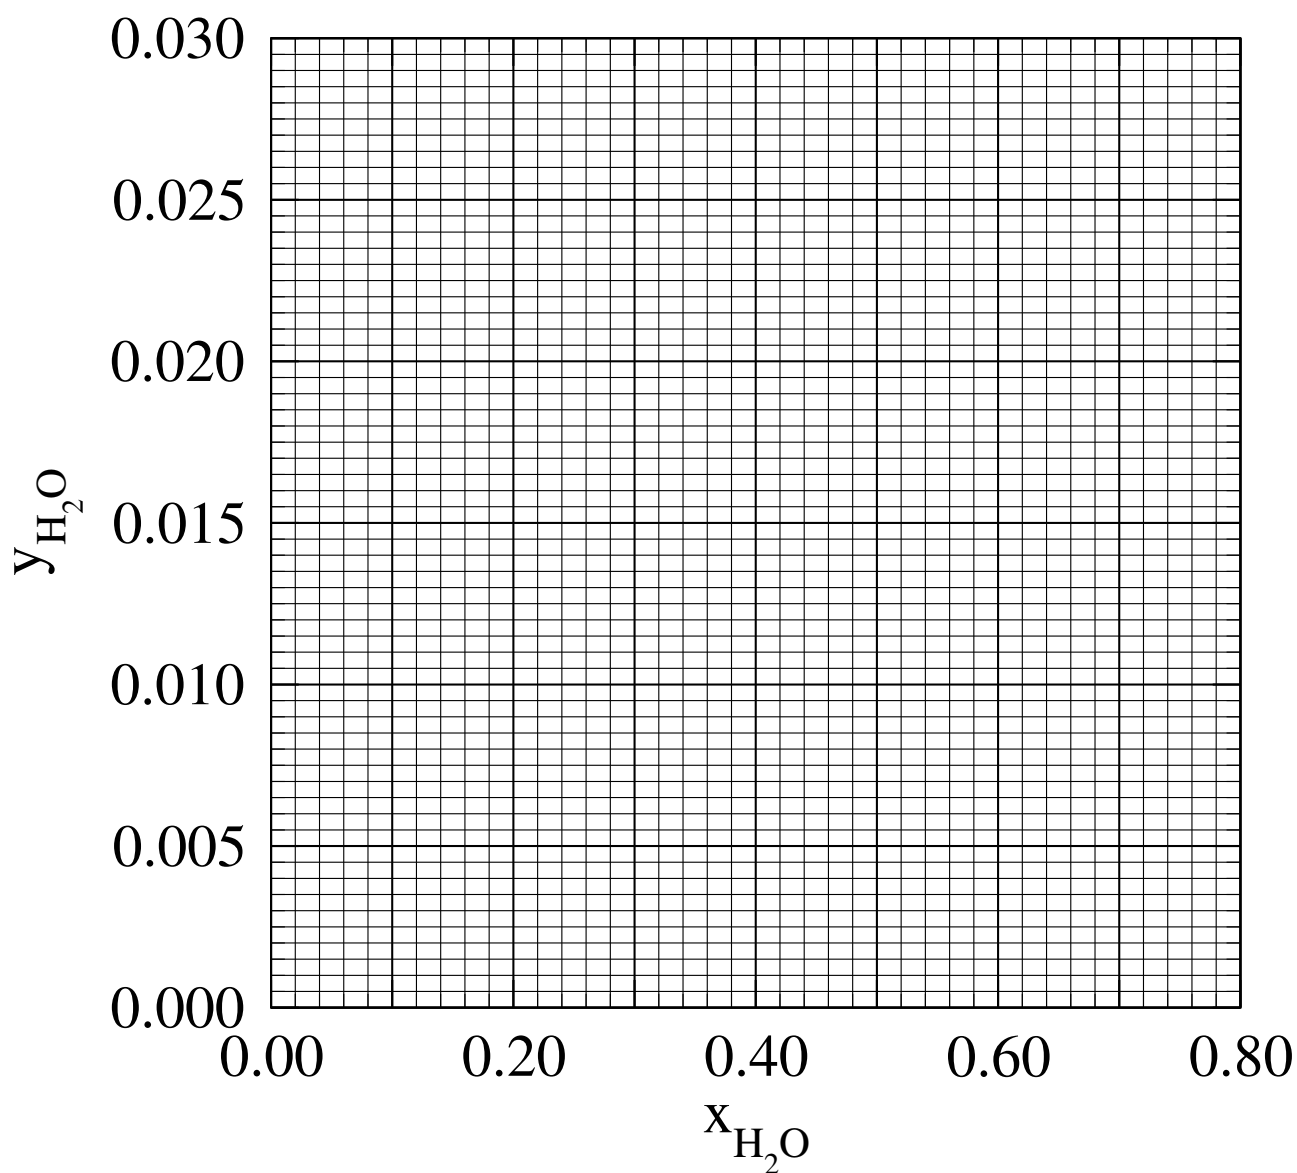

Figure 11: Blank graph for the air dryer in Q. 12.
- Using the equilibrium data provided in Table 1, determine the number of equilibrium stages required to perform the absorption. Plot your graph in x - y coordinates on Fig. 11 and ensure that you adequately capture the curvature of the operating line (or use X - Y coordinates). [12 marks]